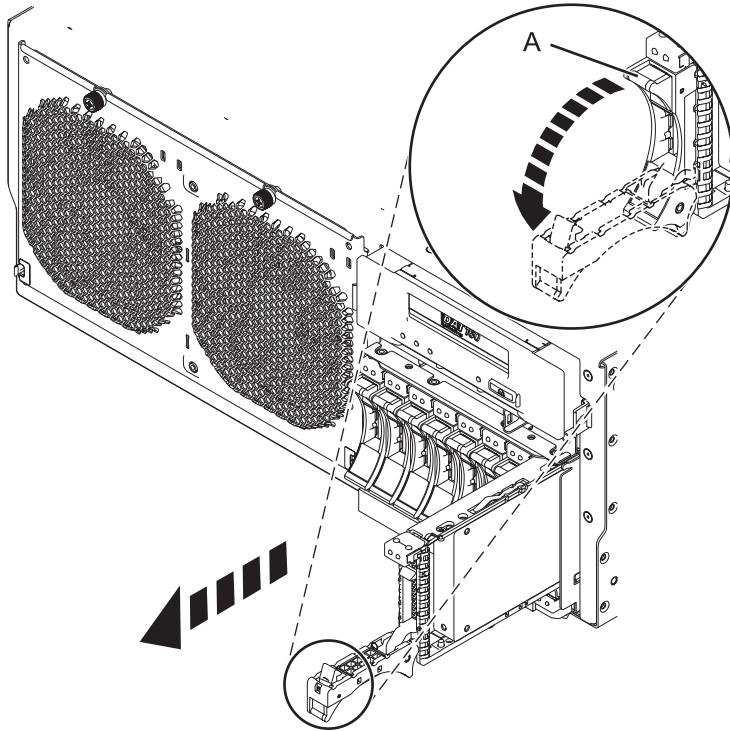

Figure 22. Removing the disk drive from the backplane
- 2) Place one hand under the disk drive and carefully pull the drive out of the system as shown in Figure 22 on page 45.